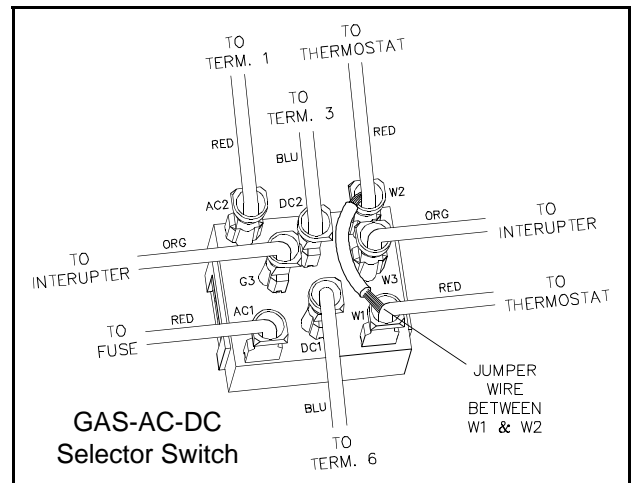

Figure 5 - Thermostat Jumper Connection
- a. With the AC cord disconnected, unfasten the Control Assembly and lay back to view the control wiring - See the first four steps of the selector switch removal procedure on page 12-20. Without removing any wires, place a jumper across terminals W1 & W2 as illustrated in Figure 5. Make sure the jumper is making contact with the copper wire of metal terminal.
- a. With the AC cord disconnected, unfasten the Control Assembly and lay back to view the control wiring as described above. Without removing any wires, place a jumper across terminals W1 & W2 as illustrated in Figure 5.
- a. With the AC and DC power disconnected, unfasten the Control Assembly and lay back to view the control wiring - per removal procedure on page 12-18. Without removing any wires, place a jumper across terminals W1 & W2 as illustrated in Figure 5.